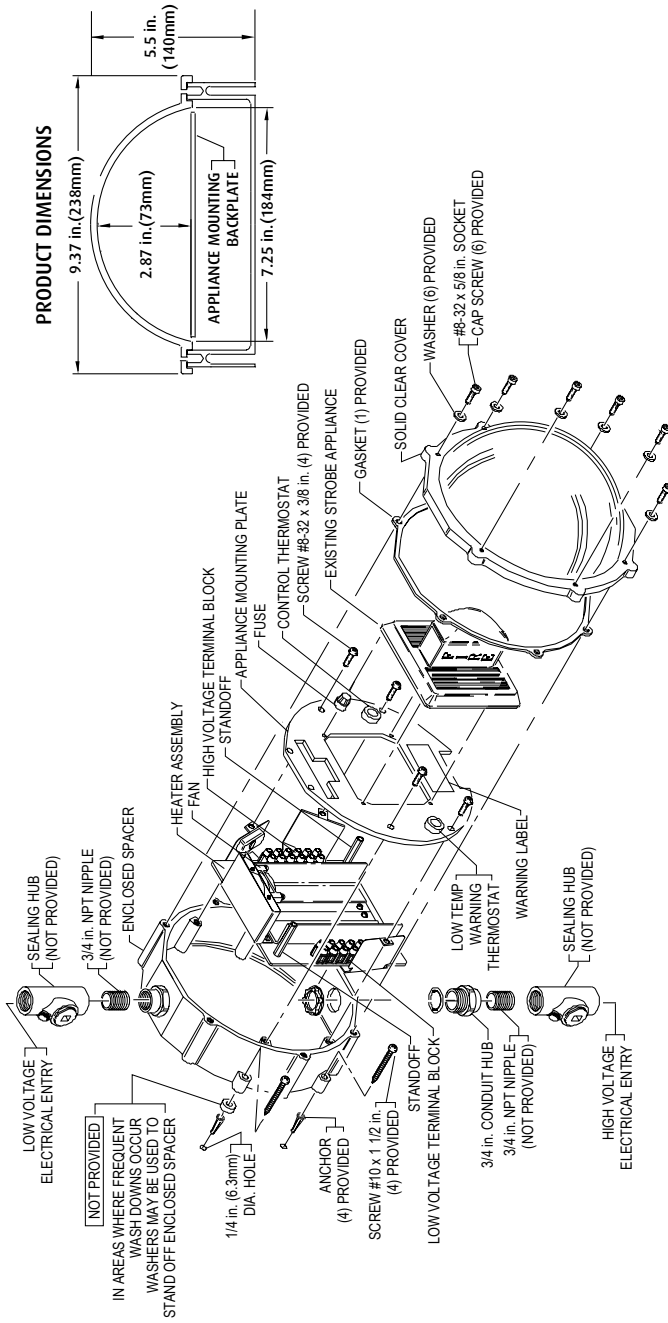

FIGURE 4
13. Install cover and gasket with (6) #8-32 x 5/8" socket cap screws and (6) flat washers as shown in Fig. 4. Max. torque 18-20 in./lb.